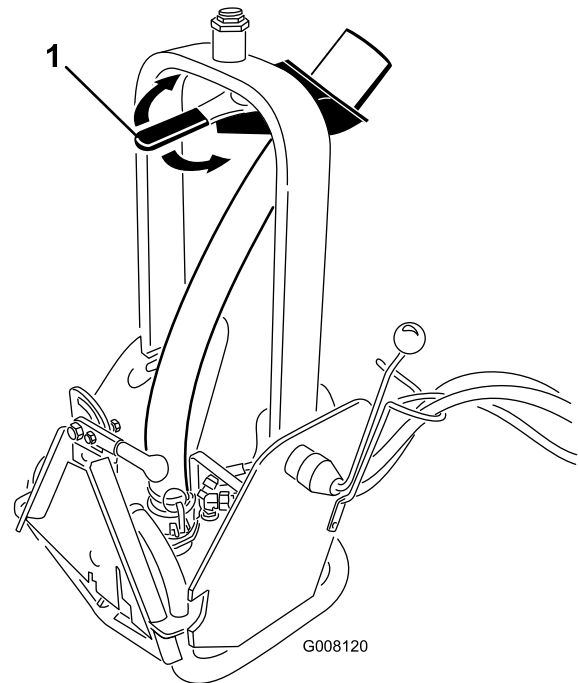

Figure 7
2. To adjust the flow direction, rotate the nozzle handle (Figure 7) to the desired position.
Note: The resistance on the handle nozzle (Figure 7) may be increased or decreased by